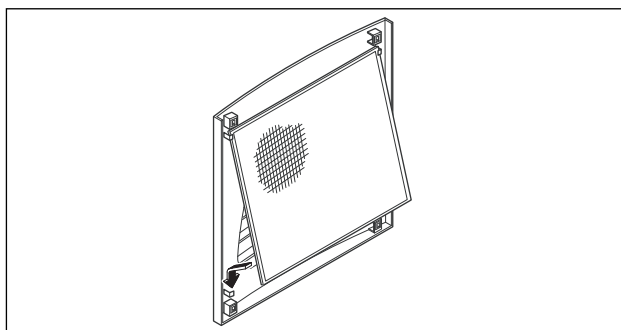

Fig. 32: Installing the filter mat
- Insert the filter mat into the louvred grille as shown in Fig. 32 and push it back onto the enclosure.